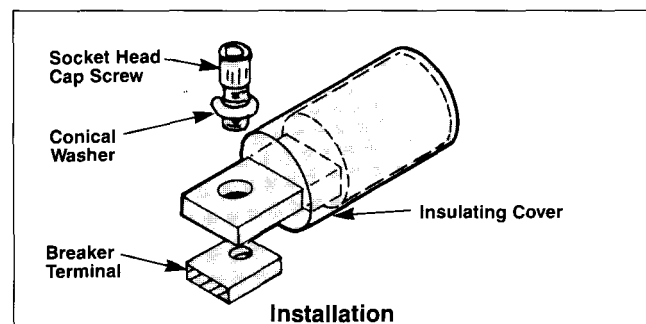

Figure 3
- Slip insulating cover over connector tang and then over connector barrel so that only the connector tang is exposed (Figure 3).
- Position connector tang on top of the circuit breaker terminal pad and secure with 3/8-16 x 3/4 in. socket head cap screw and conical spring washer. Conical spring washer is to be installed with convex side of washer toward underside of screw head (Figure 3). Torque screw to 175 in-lb.